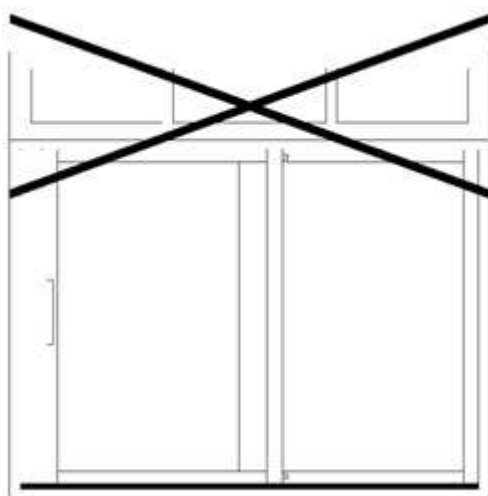

Figure 12. A parallel sliding door is not a supporting structure
5. A parallel sliding door must not be used as a supporting structure, i.e. no openings shall be installed immediately on the sliding door (see Figure 12. A parallel sliding door is not a supporting structure).